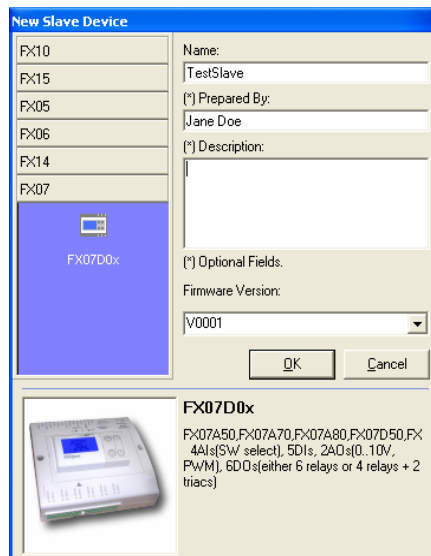

**Figure 102: Adding a Slave**
1. Right-click the device and select New from the Add Slave menu (Figure 102). The New Slave Device window appears (Figure 103).